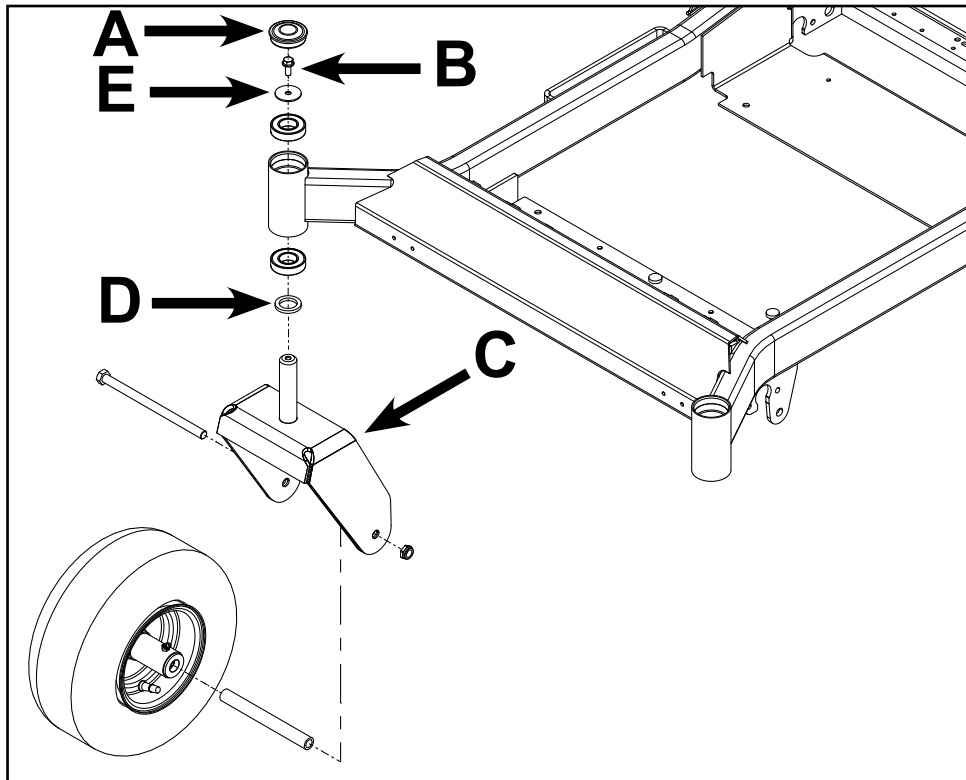

Fig. 007
2. Install thrust washer (D) onto the caster fork shaft.
4. Install washer (E).
5. Install fastener (B) and torque to specification - 17 ft-lbs. (23 Nm).
6. Install the dust cap (A) until fully seated.
7. Safely lower unit and verify proper function (Fig. 007).